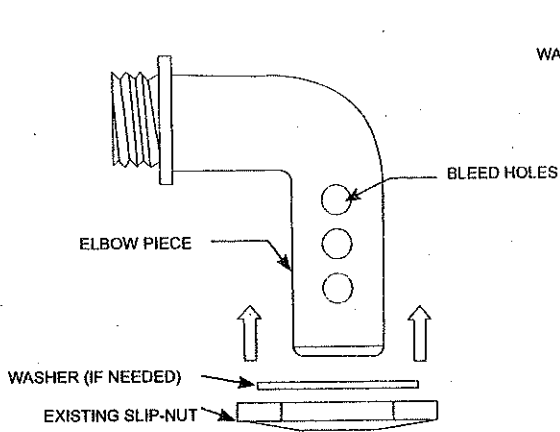

FIGURE 2
2. Remove the slip nut holding the "eyeball" in place from the inlet nearest the shallow end. Select one of the washers (7 or 8) that best fits into the threaded part of the slip nut. Insert the elbow piece (6) through the opening in the washer and then through the slip nut (Fig. 2). Some smaller inlets will not require a washer. This is your inlet adapter.